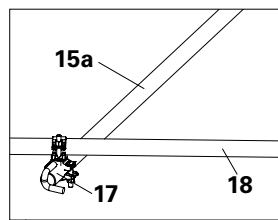

Fig. A4.05
3. Fix scaffold tubes (**18**) to the Wall Ties UWT 140 using swivel couplings (**17**). (Fig. A4.05)